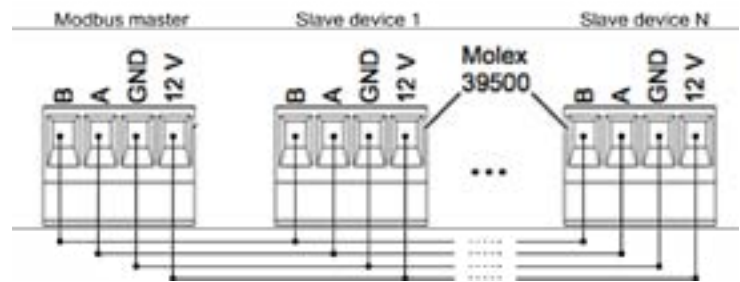

Fig. 3: Wiring the Gateway to device slaves
- ▶ Prepare the device cable (Fig. 3 shows the pin assignment).